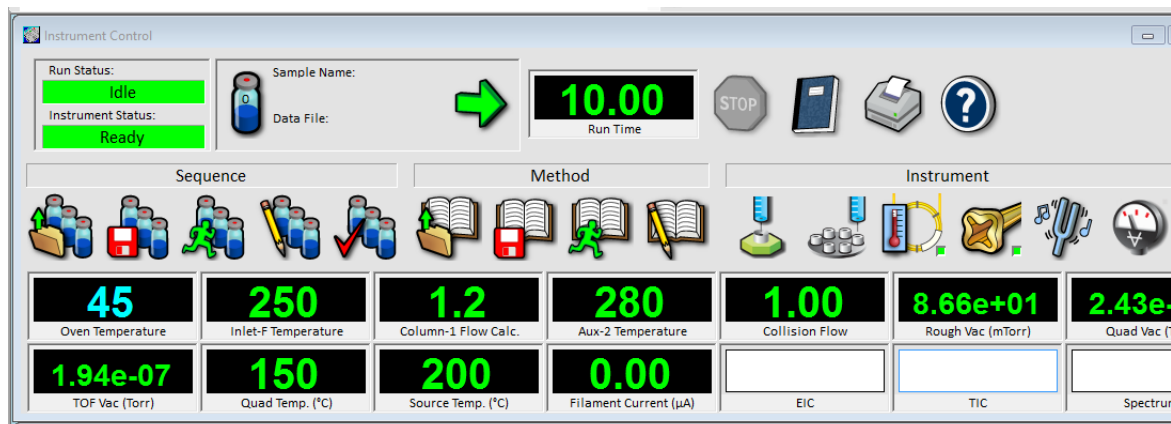

Figure 8. Arranging monitors
- 5 Select **Window > Arrange Monitors**, or click and drag each monitor to the desired position. See **Figure 8** for one way of arranging the monitors.